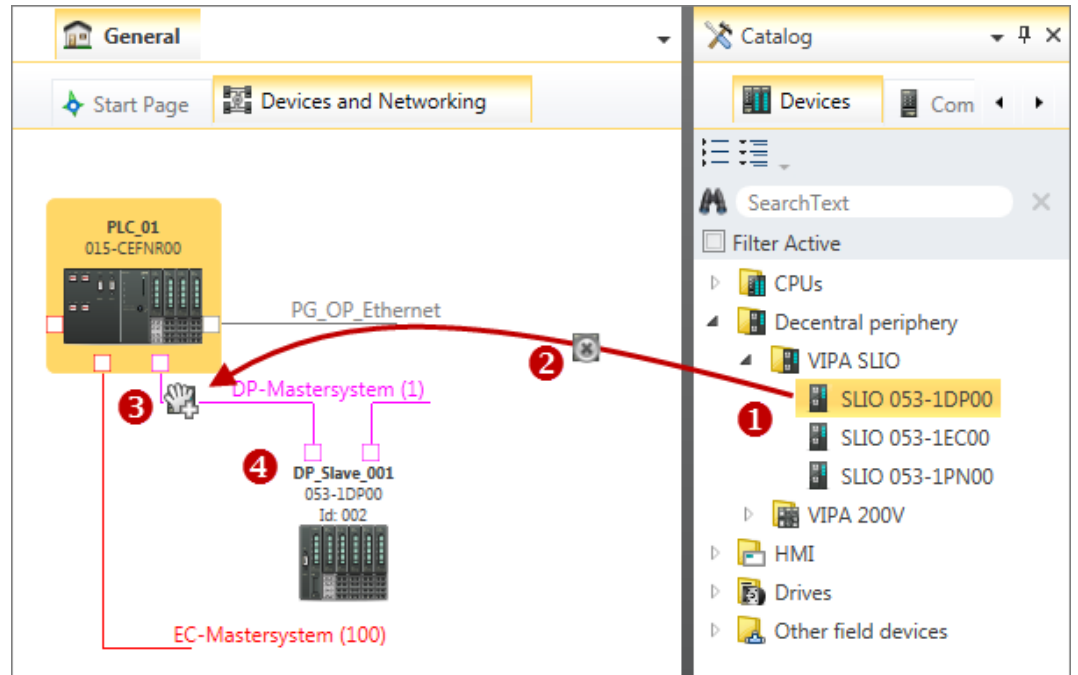

Fig. 62: Adding slave via "Catalog"
- **Catalog:** Drag the desired slave from the 'Device templates' register of the catalog (↪ *Chap. 4.10 'Catalog' page 31*) to the connecting line of the bus system in the 'Devices and networking' editor. Fig. 62